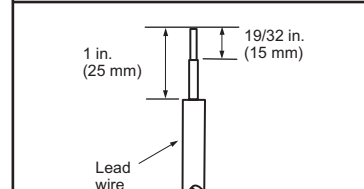

Fig. 3
- Process the end of ground wire (Fig. 3). Connect it to the ground terminal of electrical parts box.
- Process the end of indoor/outdoor unit connecting wire (A) (Fig. 3). Fix it to terminal block. Be careful not to make mis-wiring. Fix the wire to the terminal block securely so that no part of its core is appeared, and no external force is conveyed to the connecting section of the terminal block.
- Put the drain cap into the section to which the drain hose is to be attached at the rear of the indoor unit. (Fig. 3)
- When connecting the drain hose to the hard vinyl chloride pipe, be sure to insert it securely into the pipe. (Fig. 3)
- 2) Completely remove all burrs from the cut cross section of pipe. (Fig. 3)